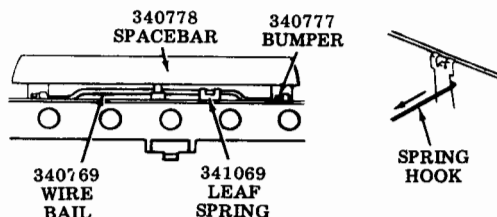

Fig. 2—Leaf Spring Disengagement
- Disengage the leaf spring (bronze colored) from the wire bail using a spring hook and pull toward the front (Fig. 2).